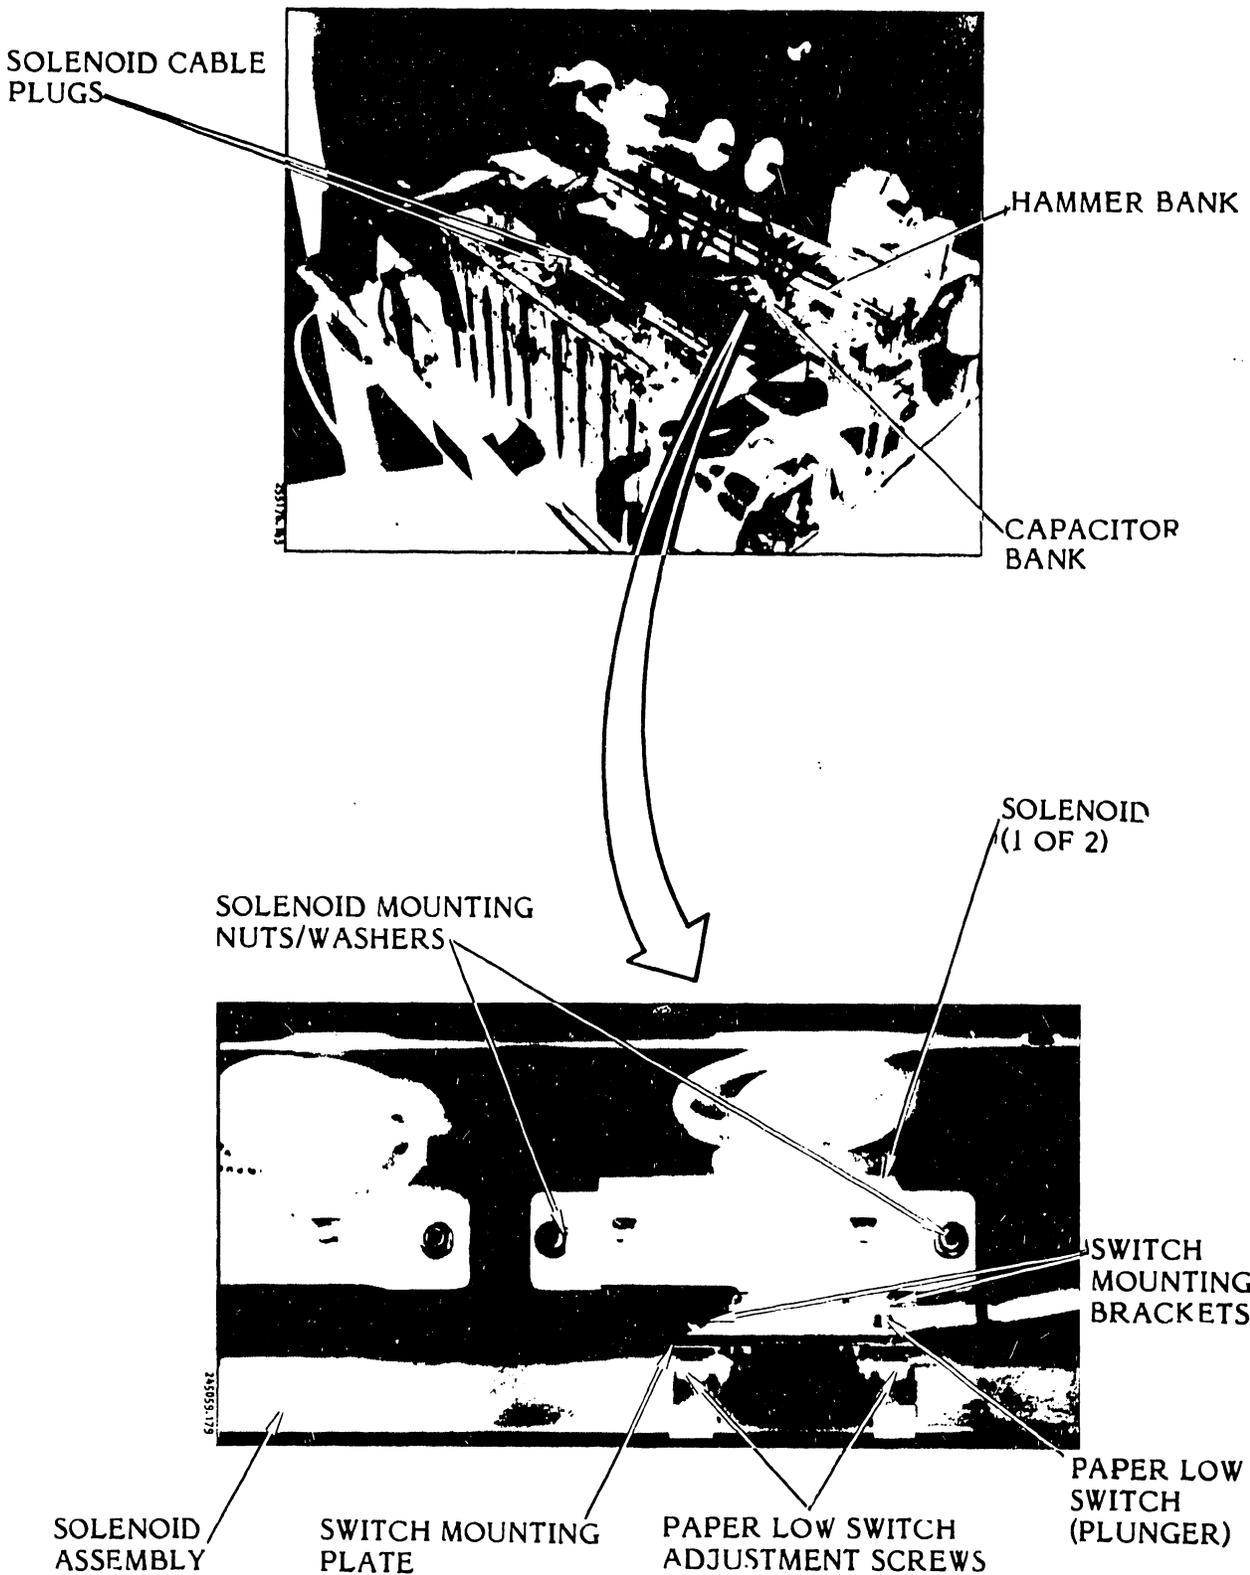

Figure 3-111. Paper Clamp Solenoid (300 LPM Printer) Removal/Installation
(Figure 3-111)
- e. Unplug the solenoid cable from the Power Board CCA (see figure 3-111).